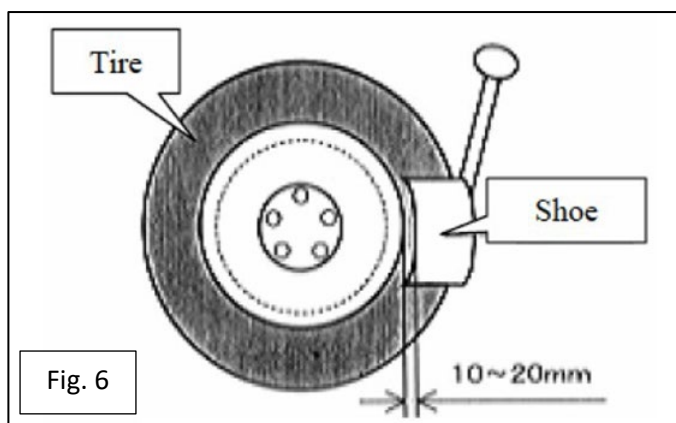

Fig. 6
8. Utilize suitable tire changer to dismount tire from wheel. Figure 6.